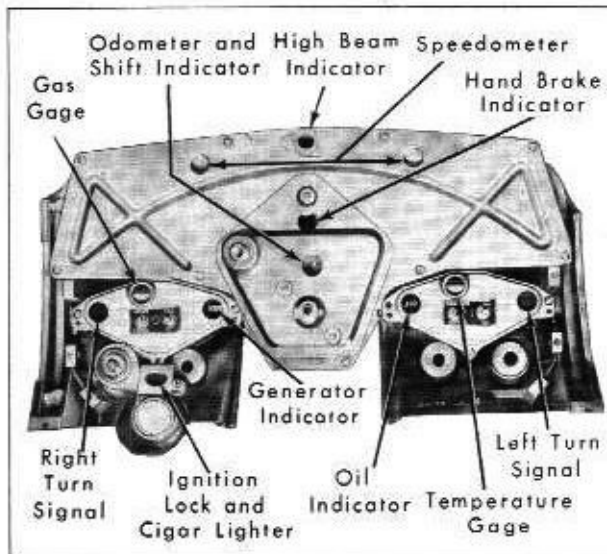

Fig. 15-2 Instrument Bulb Location
2. Install all bulbs to rear of cluster assembly, making sure lights are in correct holes. Fig. 15-2.